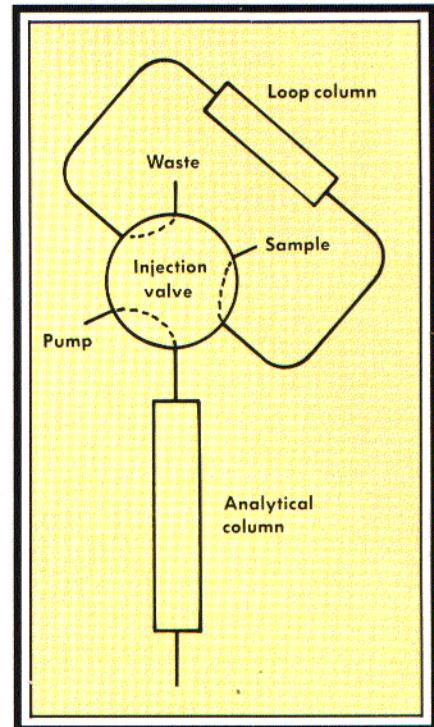

FIGURE 1: Column switching using a loop column.
**JWD:** Your assay seems ideally suited for a column-switching application. In your case, this could be done manually or in an automated mode. One possible configuration is shown in Figure 1. The technique involves replacing the sample loop on the injection valve with a guard column, which is then referred to as a *loop column*. (Pack the loop column with guard-column packing, such as 30- $\mu$ m pellicular C18 packing.) Now inject the 5-ml sample onto the loop column in the *load* position. The sample compound should stick